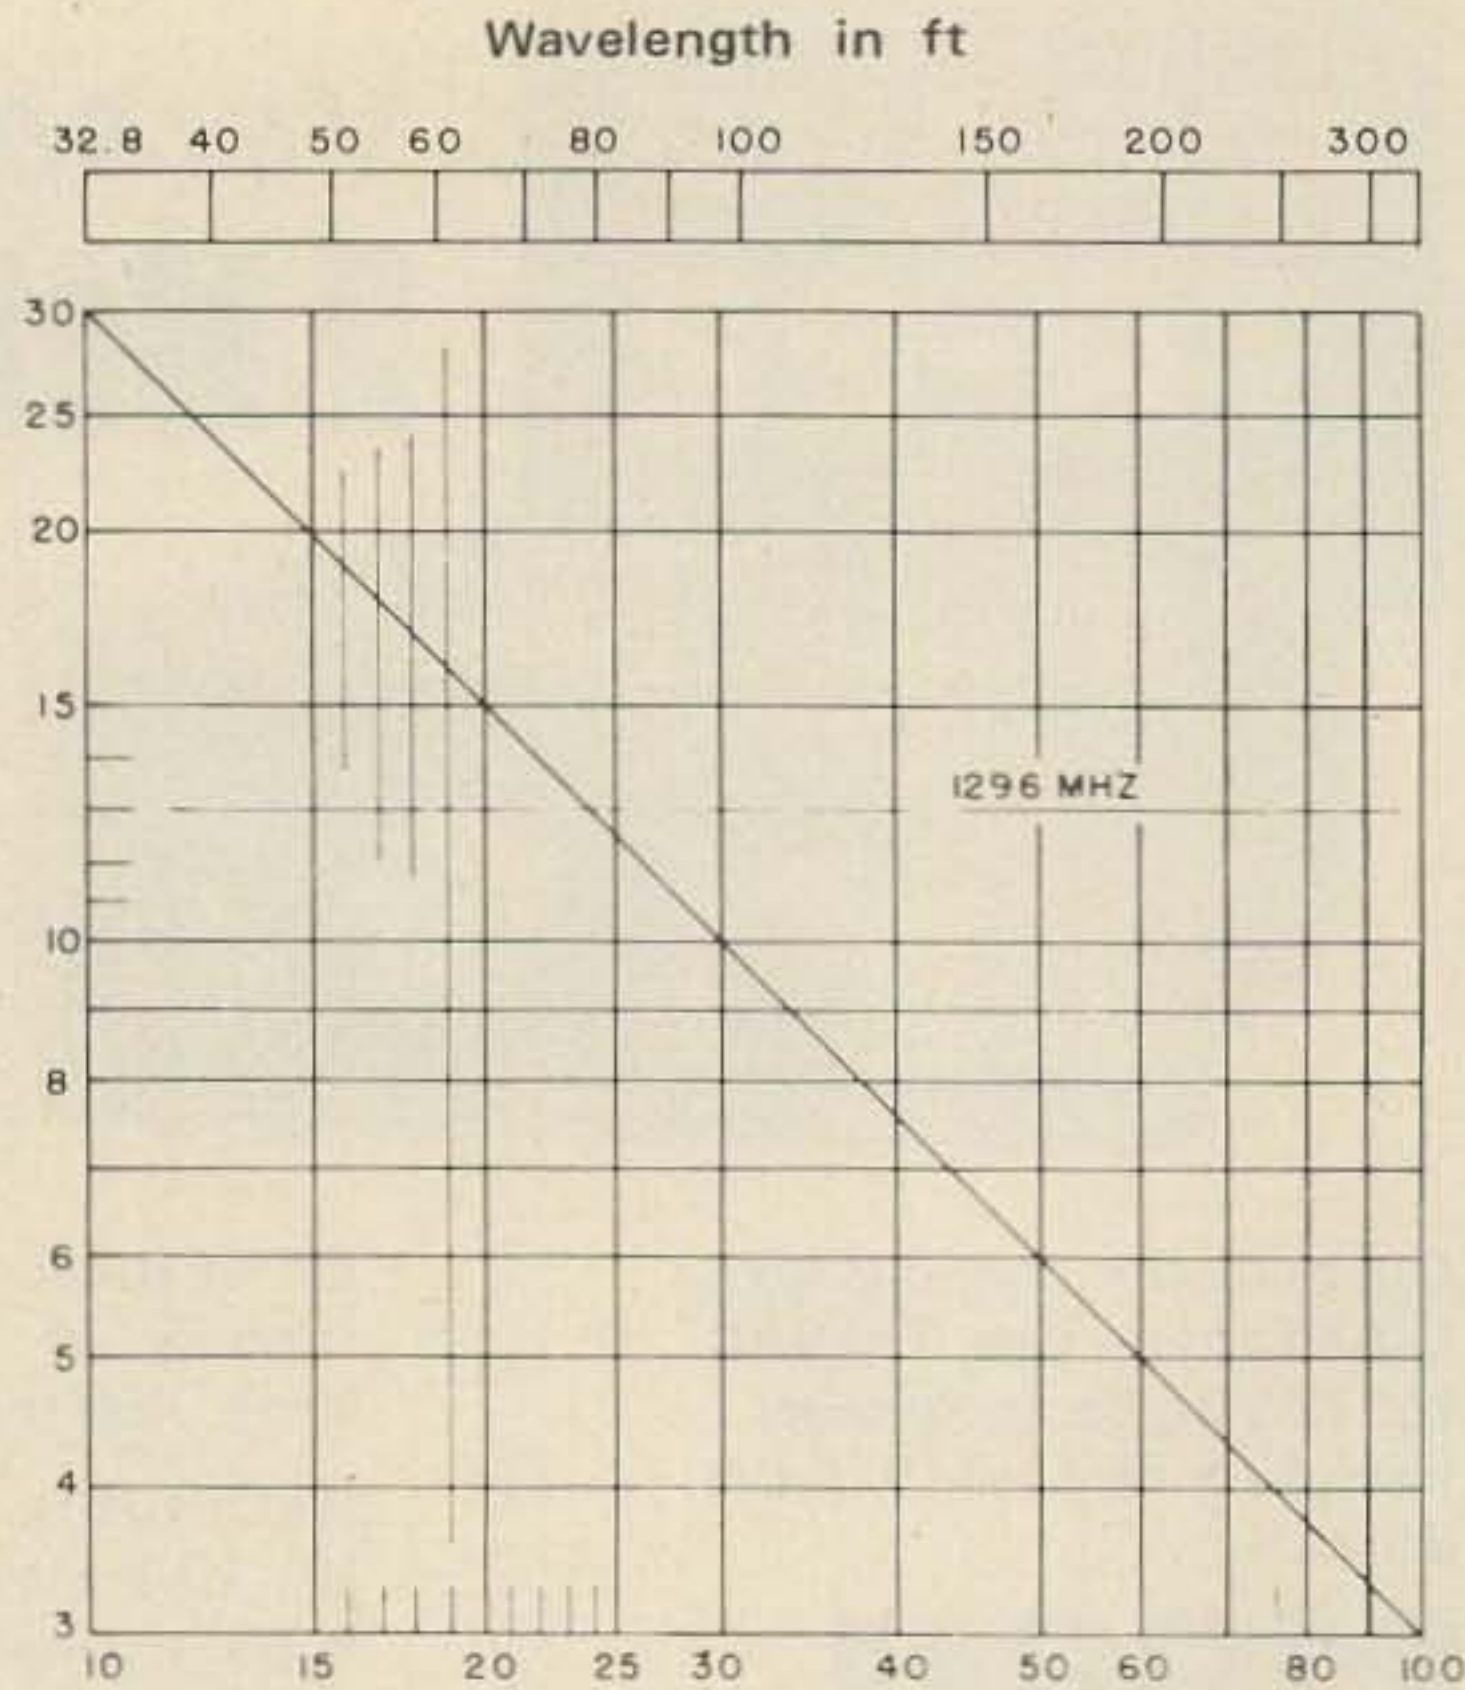

Fig. 10. Chart illustrating the wavelength frequency conversion.
4. For equipment all you need besides the oscillator, receiver, and the two antennas, is a couple of plane sheet reflectors which can be 10 x 10 in. aluminum chassis, or similar, standing on end on the table, a 10¢ plastic ruler, and the frequency-wavelength chart of Fig. 10.
7. The average spacing between nulls, in millimeters, will be the half wavelength. Convert to frequency with the chart of Fig. 10, or use a conversion factor if you wish. For instance the frequency in cycles per second equals 300,000,000,000 divided by the wavelength in millimeters. For example, 10 centimeters, which is 100 millimeters, equals 3,000,000,000 cps, or, 300 MHz, or 3 GHz. That's it. Happy millimeters.